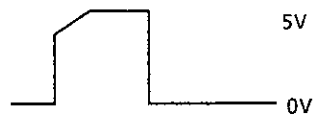

Figure E-3-2
- Yes Is a RST signal in Q3 is as specified in Figure E-3-2?